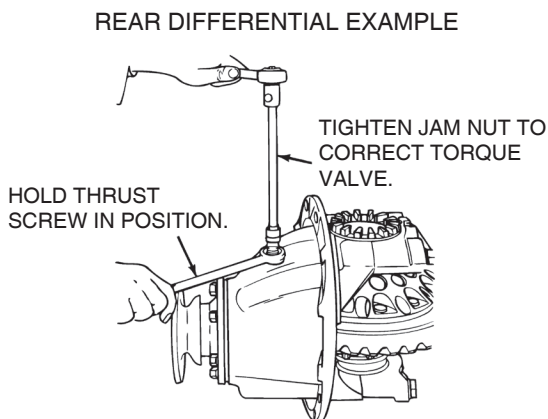

Figure 5.62
5. Tighten the jam nut, if equipped, to the correct torque value against the differential case. See the Section 8. Figure 5.62.